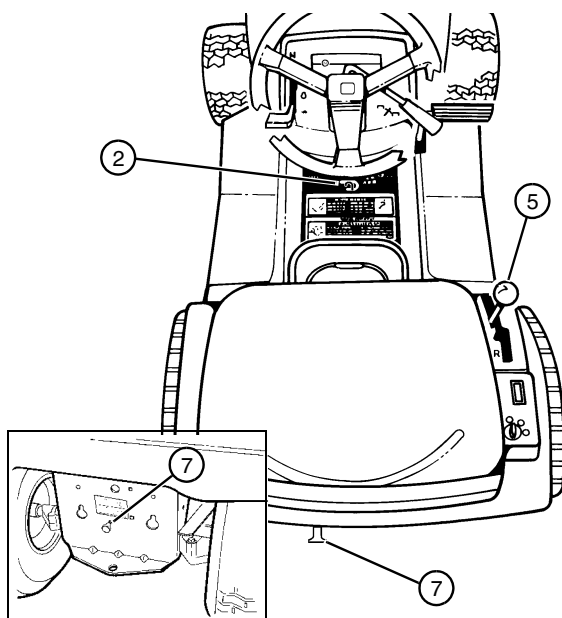

FIG. 16
Pull free-wheeling knob (7) rearward, unlocking transaxle. (See FIG. 16)
- Unlock park brake lever (2) and move shift lever (5) to N (Neutral) position.